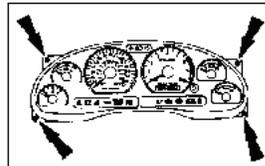

Figure 3.
- D. Remove four black Phillips head screws from the instrument cluster. (See figure 3)